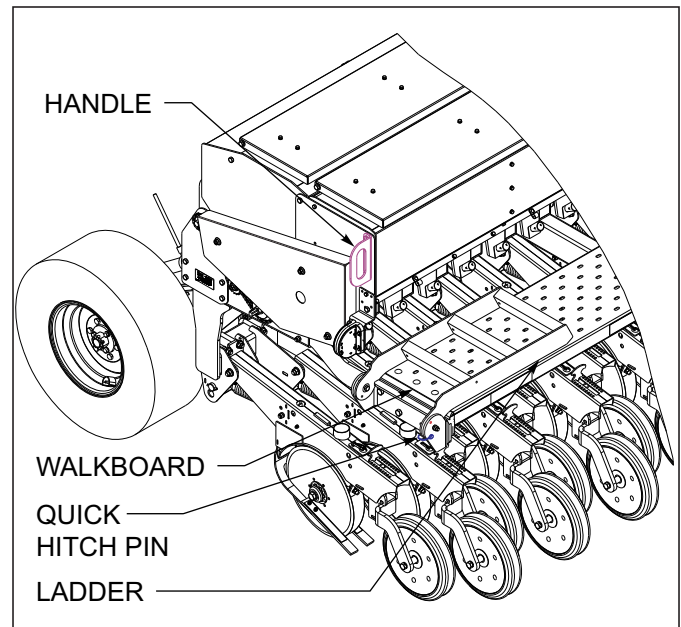

Figure 4-43: Ladder Transport/Planting Position
- a. The ladder should be in the raised position (laying across the top of the walkboard) and secured with the pin See Figure 4-43.